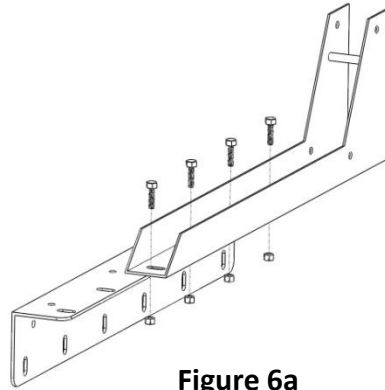

Figure 6a
- a. Line up the slotted holes on the Channel Bracket (cvBB) to the Side Mount Bracket (cvAA) and bolt them together using at least 4 Medium Hex Bolts (cvD) and 4 Lock Nuts (cvF). The Channel Bracket (cvBB) should hang over the edge of the Side Mount Bracket (cvAA). Do not tighten the bolts all the way. See Fig 6a.